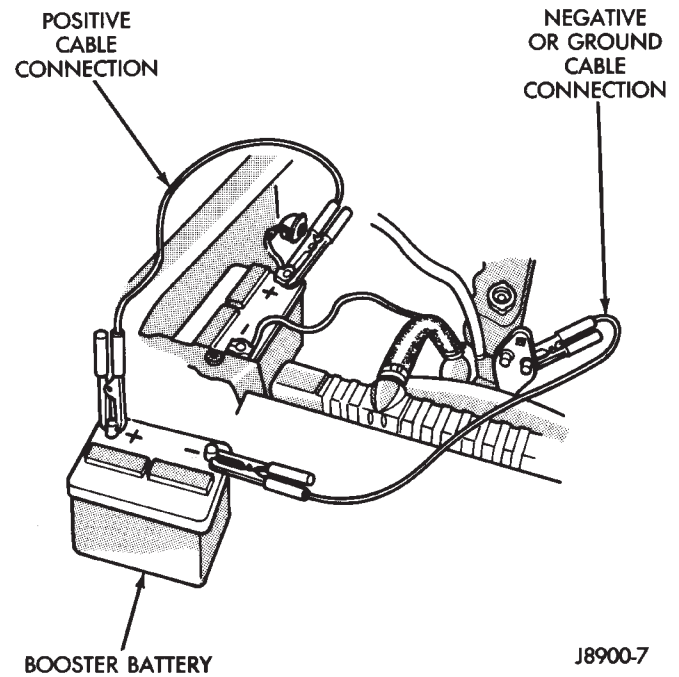

Fig. 1 Jumper Cable Connections—Typical
(2) When using another vehicle as a booster source, turn off all accessories, place gear selector in park or neutral, set park brake and operate engine at 1200 rpm.
(3) On disabled vehicle, place gear selector in park or neutral and set park brake. Turn off all accessories.
(4) Connect jumper cables to booster battery. RED clamp to positive terminal (+). BLACK clamp to negative terminal (-). DO NOT allow clamps at opposite end of cables to touch, electrical arc will result. Review all warnings in this procedure.
(5) On disabled vehicle, connect RED jumper cable clamp to positive (+) terminal. Connect BLACK jumper cable clamp to engine ground as close to the ground cable attaching point as possible (Fig. 1).